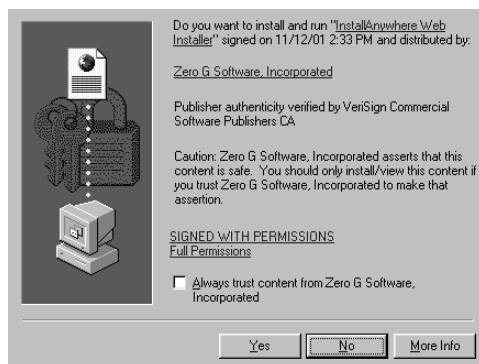

Figure 98: Security Warning page
5. Click the appropriate button (**Begin HP-UX Installation/Begin AIX Installation/Begin Linux Installation**) to begin the installation process. A security warning page prompts you to install the InstallAnywhere Web Installer (Figure 98).